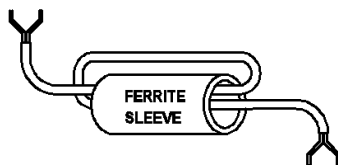

Figure 1 - Ferrite EMC suppressor
- 5) Loop the load (output) wiring through the supplied ferrite EMC suppressor as shown in Figure 1. Cable tie or secure the Ferrite sleeve within the enclosure to ensure that it cannot put strain on any connector.